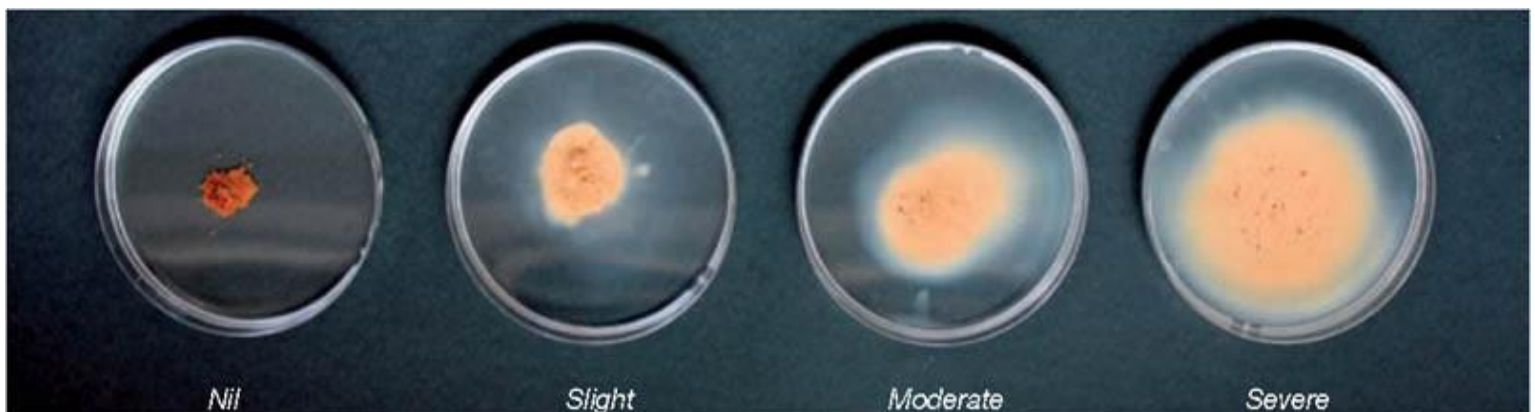

Figure 1: Degrees of soil dispersion
- The water around the edges of the soil aggregate in dispersive soils will become cloudy and milky looking (water looks dirty) because of the dispersed clay (Figure 1)
- For a highly dispersive soil dispersion will be obvious after about 10-30 minutes, for a moderately dispersive soil it may take two hours for dispersion to be obvious (Figure 1). Thirdly field indicators of moderate or severely dispersive topsoil's are usually obvious: